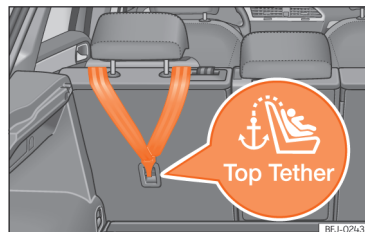

Fig. 46 Rear part of the second row of rear seats: securing rings for the Top Tether strap.
- Slide the strap and secure it properly with the anchor on the rear seat backrest »» Fig. 46 , »» Fig. 47.